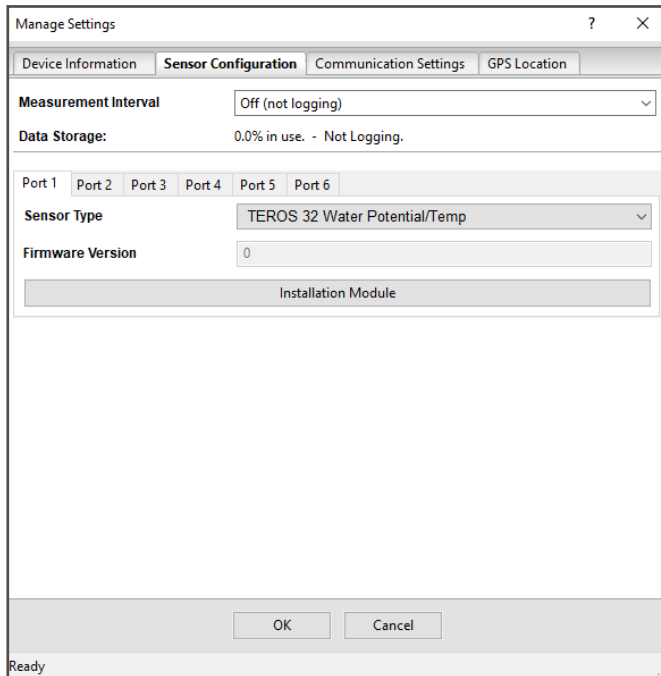

Figure 4 Sensor Configuration tab
5. Select the Sensor Configuration tab (Figure 4).